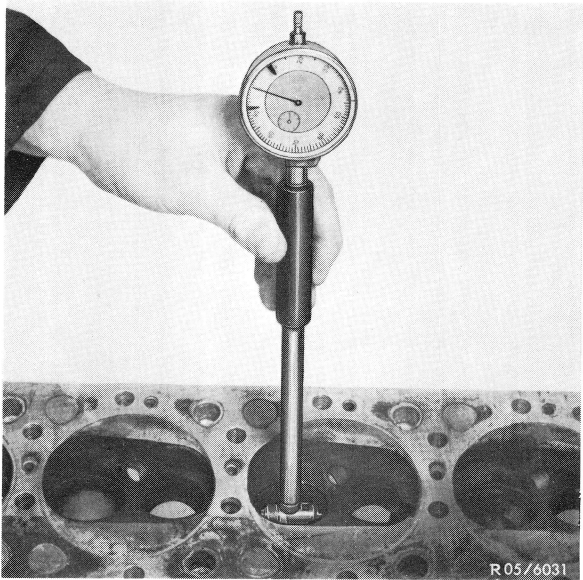

Fig. 3
- 3 Clean bore and check diameter with internal measuring instrument (Fig. 3).